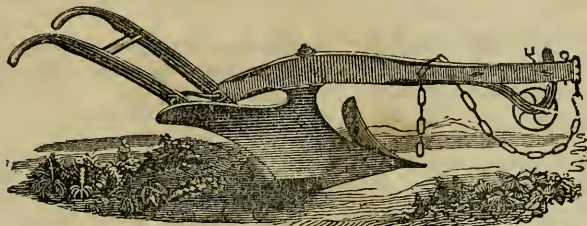

FIG. 2.
Fig. 2 represents the **Eagle Plough C, D, or F**, with Fin-Cutter Share, without Coulter through the beam, which is well adapted for stubble ground, or Southern ground ploughing.
**Eagle C,**—WITH FIN-CUTTER.—See Fig. 2.—In other respects it serves the same purposes as Eagle C, with coulter.